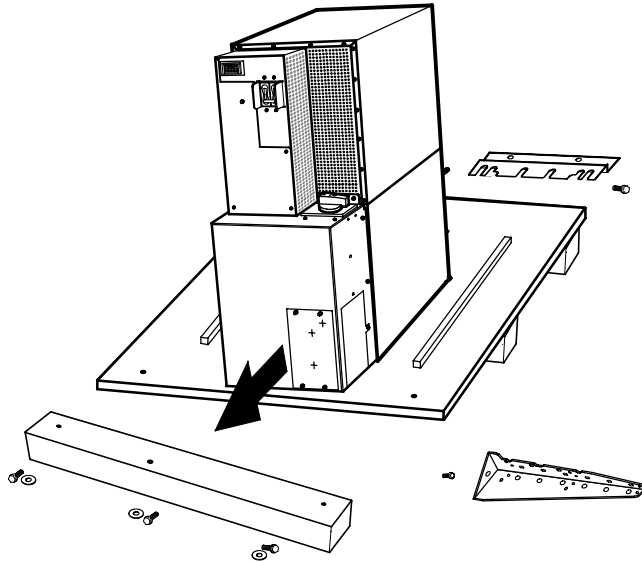

Figure 9. Unloading the Cabinet
7. Slowly roll the cabinet toward the rear of the pallet. Once the pallet tilts, continue rolling the cabinet down the pallet until the cabinet touches the floor (see Figure 9).